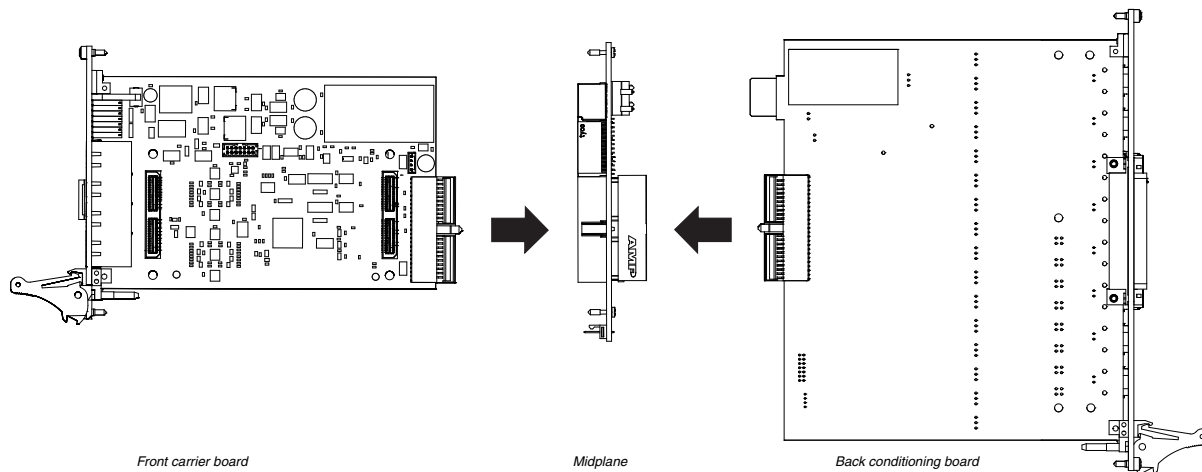
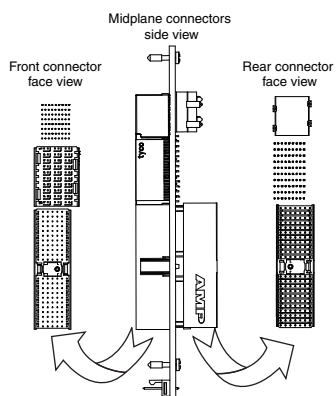

Figure 12: Connecting boards to midplane
Figure 13: Midplane connectors - face view
4. Gently slide new board into slot until locking tab clicks into place and connector slides snugly into the connector on the midplane (see Figure 12 and Figure 13).